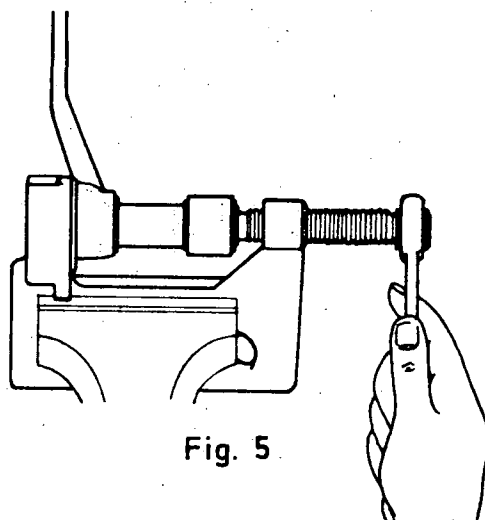

Fig. 5
g) Remove the shaft from the intermediate rod (fig. 5).